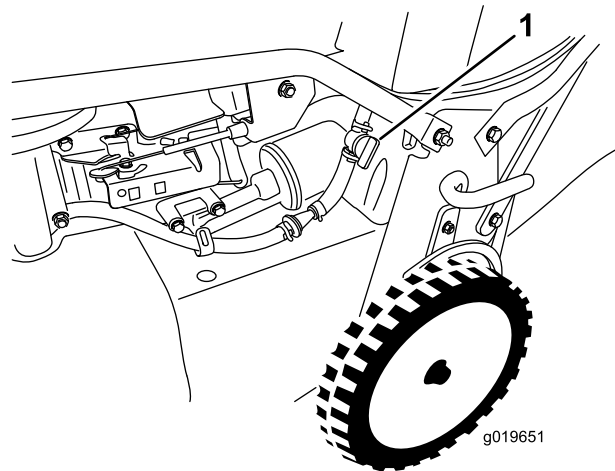

Figure 13
2. Open the fuel-shutoff valve (Figure 13).